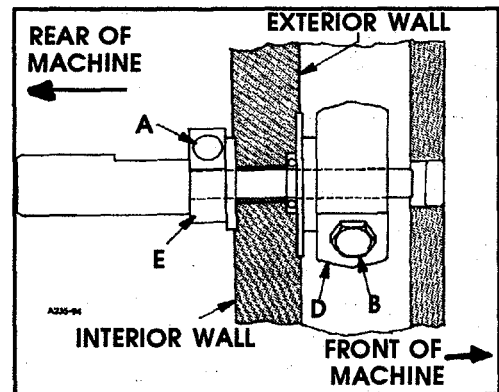

FIG. 7A
Remove cloth plate, top reservoir cover, back reservoir cover and plug screw. Loosen screws (A & B Fig. 7A) so that they are snug on shaft (C) and synchronize as usual. If shaft (C) moved to the rear, tighten screw (B) and thrust collar (E) against interior wall, while holding lever (D) against exterior wall to remove shake. If shaft (C) moved to the front, tighten screw (A) and thrust lever (D) against exterior wall, while holding collar (E) against interior wall to remove shake.